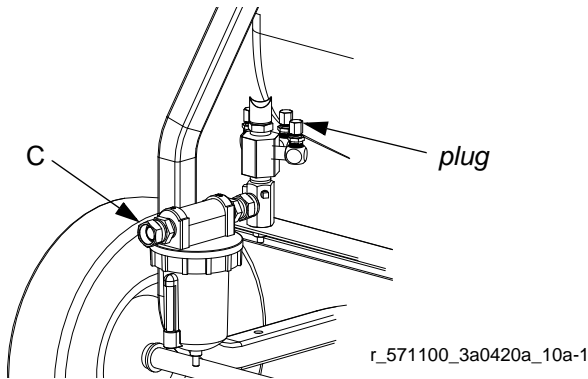

FIG. 9
2. Remove plugs as necessary for solvent pump and feed supply pump air hoses. See pump manuals for setup instructions. See FIG. 9.